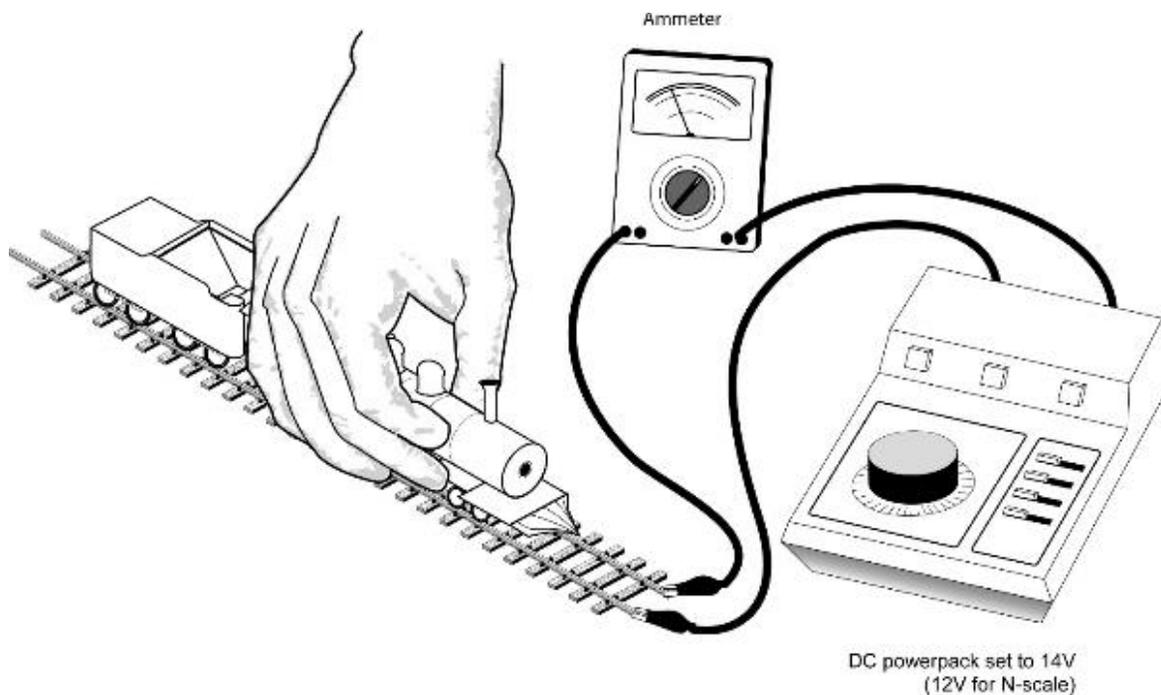

Figure 1: Testing the Locomotive's Motor Stall Current
2. Referring to Figure 1, connect a DC ammeter in series with one of the track feeders. If your powerpack has built-in meters, you may use them for this purpose.